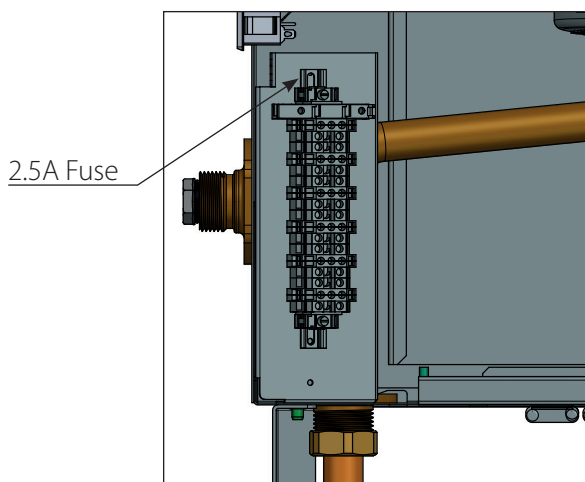

Fig. 32 - Terminal Strip Location
- A 2.5A fuse is also located on the terminal strip, to protect the output. Refer to *Fig. 32*.
1. Connect a dedicated 120 VAC/15A service to the line voltage terminals located internally in the lower left corner, as shown in Fig. 32 below.
2. Connect the CH1 & CH2 circulator wiring to the respective line voltage terminals located internally in the lower left corner, as shown in Fig. 32 on the left. This circulator is typically used to supply heat to the central/ space heating loop.
3. Connect the DHW circulator wiring to the line voltage terminals located internally in the lower left corner, as shown in Fig. 32 on the left. This circulator is typically used to supply heat to an indirect hot water heater.
4. The boiler pump is factory wired to the line voltage terminal as shown in Fig. 32 on the left.